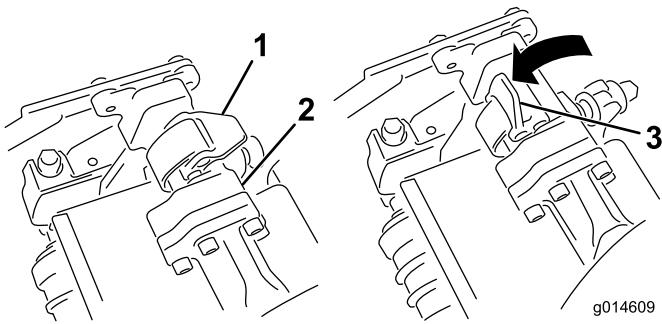

Figure 33
3. With the latches on the suspension-arm bar pointing up (i.e., open) (Figure 33), push the suspension arm down so that the bar fits over the top of the cutting unit (Figure 34).
4. Close the latches down and around the cutting-unit bar and lock them in place (Figure 33).
4. Open the latches on the suspension-arm bar of the cutting unit you are removing (Figure 33).